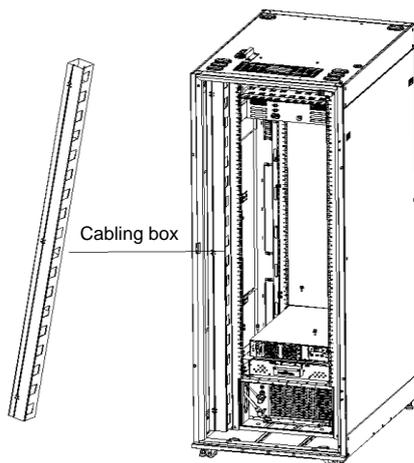

Figure 3-32 Cabling box of 800mm wide standard unit – Installation area of the rear door of the cabinet
2. SmartCabinet 800mm wide standard unit, there is a vertical cabling box of standard configuration at the rear door of the cabinet, as shown in Figure 3-32, and you can bind the cables in the cabling box.